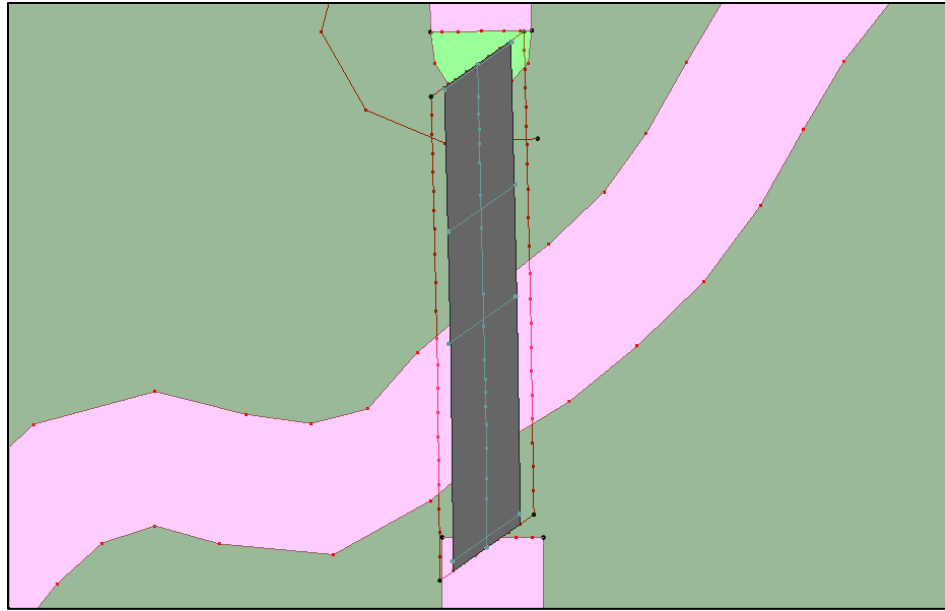

Figure 3 The unedited mesh generator coverage with bridge
5. Select the “ Middle Fork (2)” coverage and click **OK** to close the *Select Coverage* dialog.
6. Select the “ Middle Fork (2)” coverage to make it active.
8. **Zoom**  in until the display is similar to Figure 3.